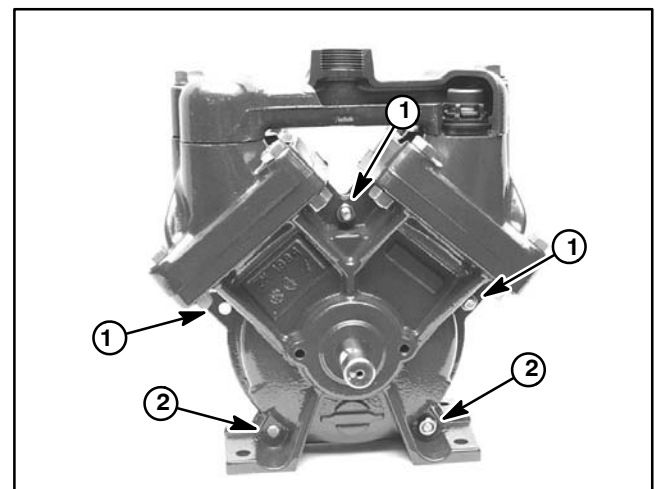

Figure 10
3. Install three (3) shorter (30 mm) and two (2) longer (55 mm) bolts into pump casing assembly (Fig. 10). Thread hex nuts onto bolts but do not fully tighten. Check that crankshaft turns freely.